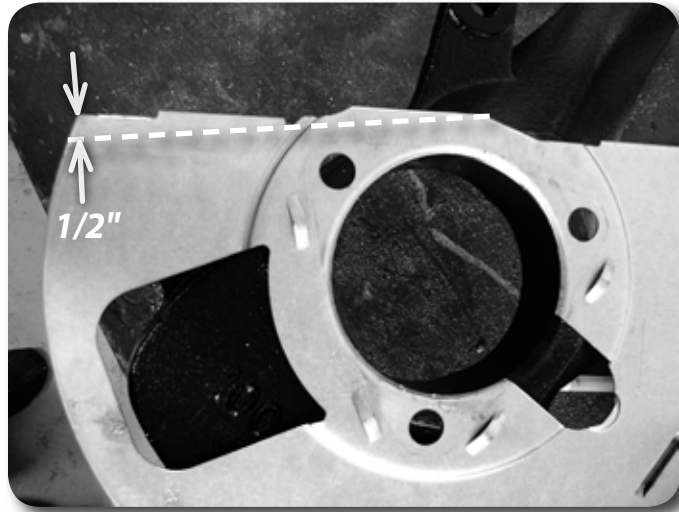

Figure 14
27. The brake dust shield needs to be trimmed. Measure in from the lower vertical edge (opposite the ABS sensor location) 1/2" and make a straight line to the edge shown in Figure 14. Cut the section off of the brake dust shield.